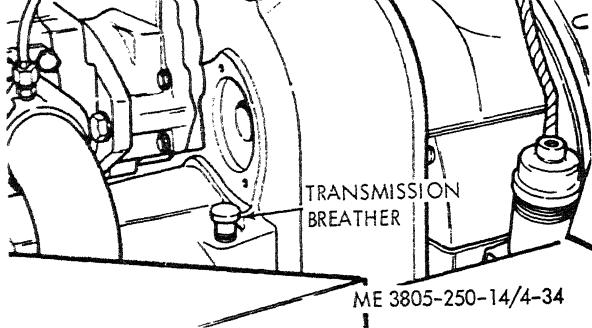

Figure 4-34. Transmission breather service.
g. Breather Service. Clean the area around the breather (fig. 4-34) and remove from transmission housing. Clean the breather by agitating in mineral spirits or solvent. Dry thoroughly with compressed air before installing. Always use a wrench of the proper size to remove or install the breather.